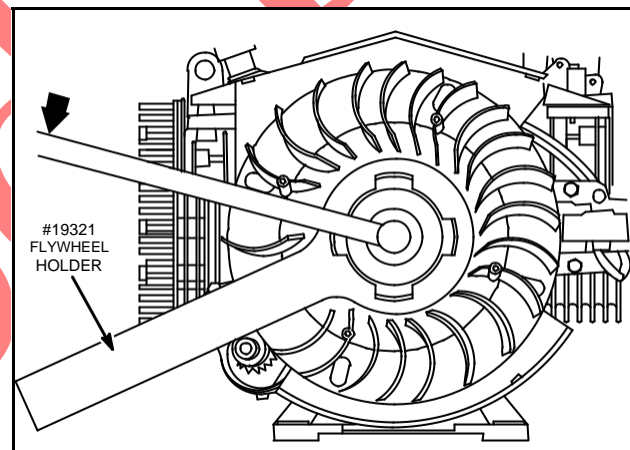

Fig. 25 – Remove Flywheel Nut
1. Place flywheel holder, Tool #19321, on fan retainer with lugs of flywheel holder engaging slots on the fan retainer, Fig. 25.